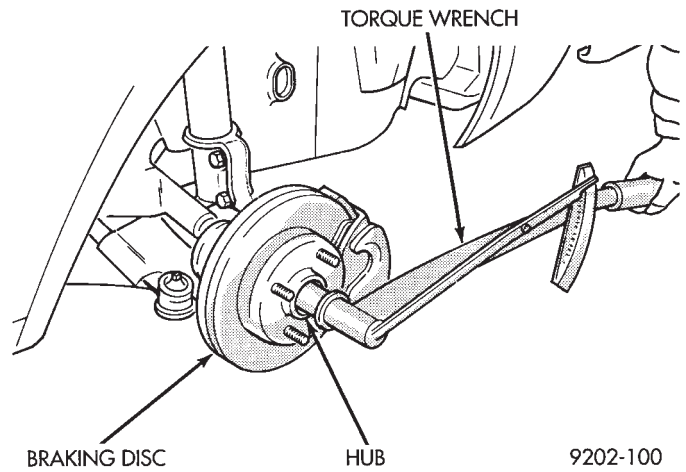

Fig. 18 Tighten Hub Nut
(12) With brakes applied, tighten front hub nut to (244 N•m) 180 ft. lbs. torque (Fig. 18).